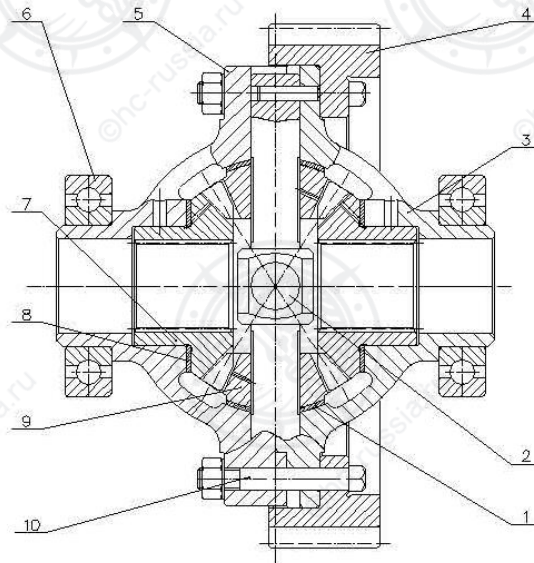

Fig.4-12 1.0t-1.8t Differential assembly structure drawing
1.0t-1.8t differential assembly structure refers to fig.4-12, and is supported on the gearbox housing through ball bearing 6 on both ends. Differential assembly installs with two half axle gears 7 and four planetary gears 9, planetary gear is supported by cross gear shaft 2, and cross gear shaft 2 is fixed on the left and right differential carrier 3 and 5. Thrust washer 1, washer 8 are installed between differential carrier and planetary gear and half axle gear. Differential carrier is in right and left splits, left differential carrier 5,